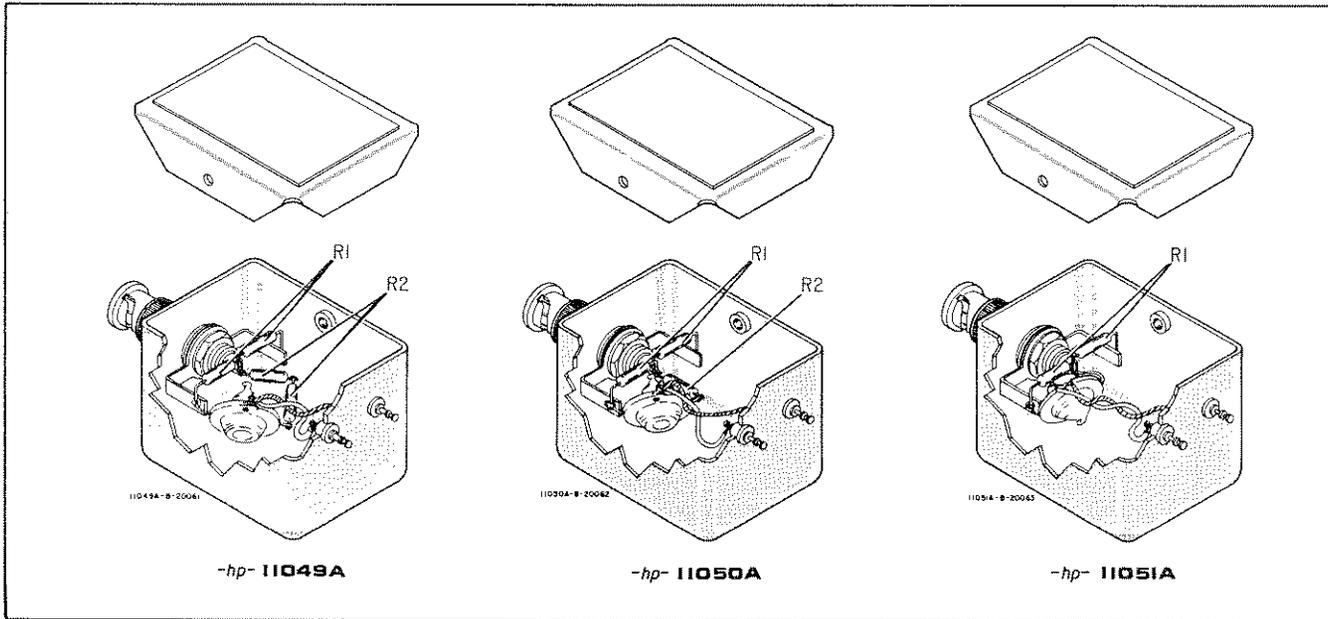

Figure 9. Proper Orientation of Components
35. The spatial orientation of the components within the thermoelement is critical. Improper placing of the components may cause serious degradation of the higher frequency response. Figure 9 shows the proper component placement for each of the components in each thermal converter.
- Make sure that component mounting matches that shown in Figure 9.